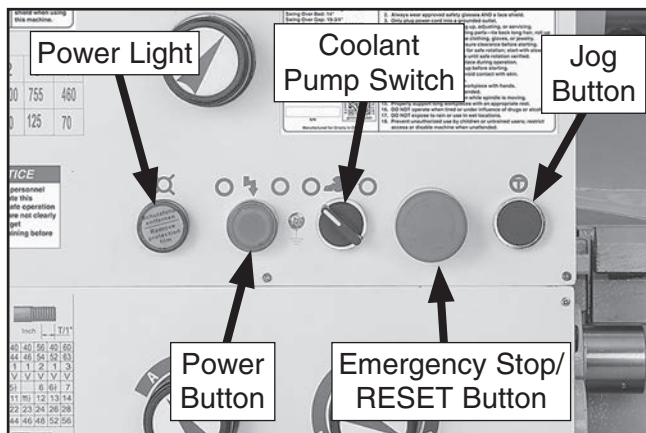

Figure 25. Control panel buttons used in test run.
3. Push Emergency Stop/RESET button on control panel (see **Figure 25**), and point coolant nozzle into chip pan.
14. Use cutting fluid pump switch on control panel to start pump (see **Figure 25** on **Page 26**), then open valve. Verify that cutting fluid flows from nozzle, then turn pump **OFF**.
15. Press power button, then press and briefly hold the jog button (see **Figure 25** on **Page 26**), then release it. The spindle should rotate when the jog button is pressed and come to a complete stop when released.